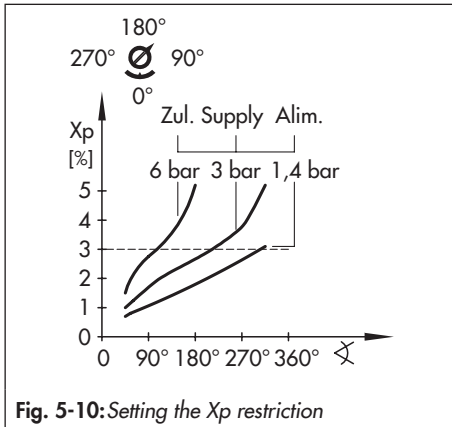

Fig. 5-10: Setting the Xp restriction
On setting the X_p restriction, observe the relationship with the supply pressure as indicated in Fig. 5-10. The preset value of X_p should be approximately 3 %.
- The adjustment range of the X_p restriction is restricted by the pointer and stop to one turn (Fig. 5-10). Do not remove the pointer.